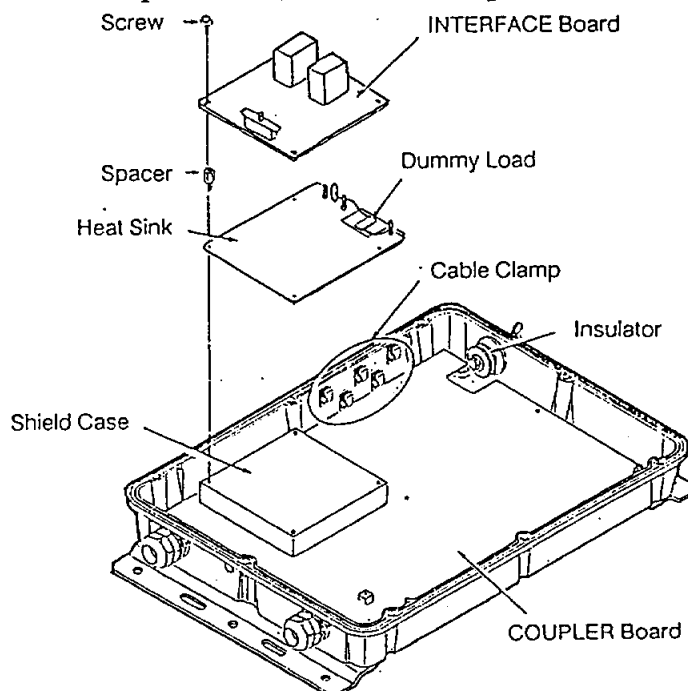

Fig. 1
6. Arrange the cable clamps inside the antenna coupler as shown in Fig.1.